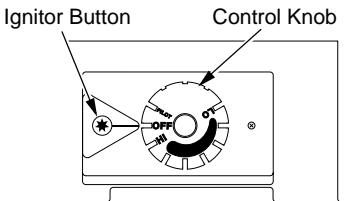

Figure 29 - Control Knob In The OFF Position
- Turn control knob counterclockwise  to the PILOT position. Press in control knob for five (5) seconds (see Figure 29).